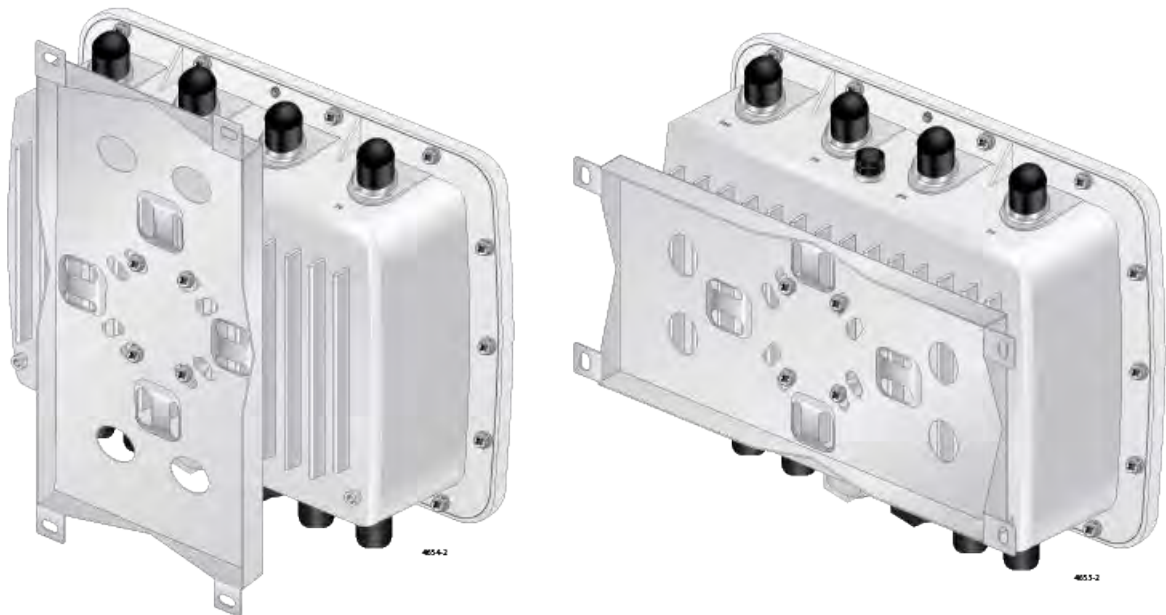

Figure 24. Orientations of the Mounting Base to the Access Point
- ❑ The mounting base can be installed in a vertical or horizontal position. See Figure 24.
The mounting base can be in a vertical or horizontal position. see Figure 24 on page 51.